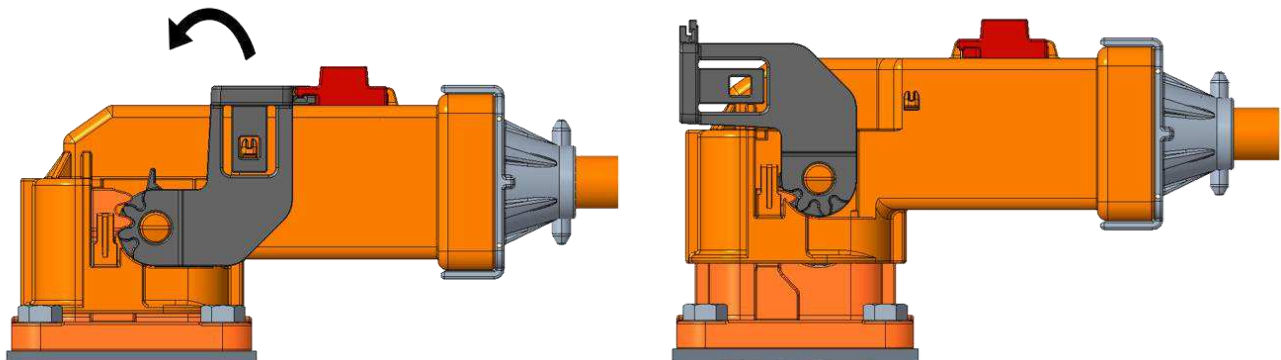

Figure 18: Lever from Close to Open
2. Rotate the lever away from the connector body until it is completely in the open position as shown in Figure 18.